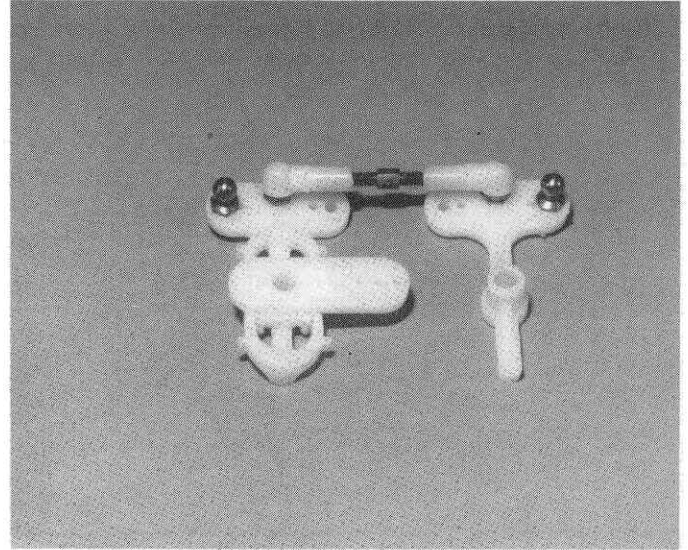

Fig. 24
- Fig. 24** Take the short rod and pop it on the servo saver with a pliers, as shown.